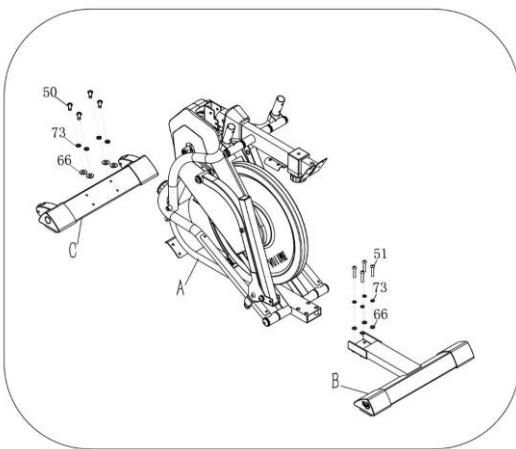

Figure 2
Use wrench(105), Lock the Front Stabilizer (C) on the Main Frame (A) with 4pcs Spring Washer (73), 4pcs Flat Washer (66) and 4pcs Bolt (50), as shown in Figure 2.
Use wrench(105) , Lock the Rear Stabilizer (B) on the Main Frame (A) with 4pcs Spring Washer (73), 4pcs Flat Washer(66) and 4pcs Bolt (51), as shown in Figure 2.